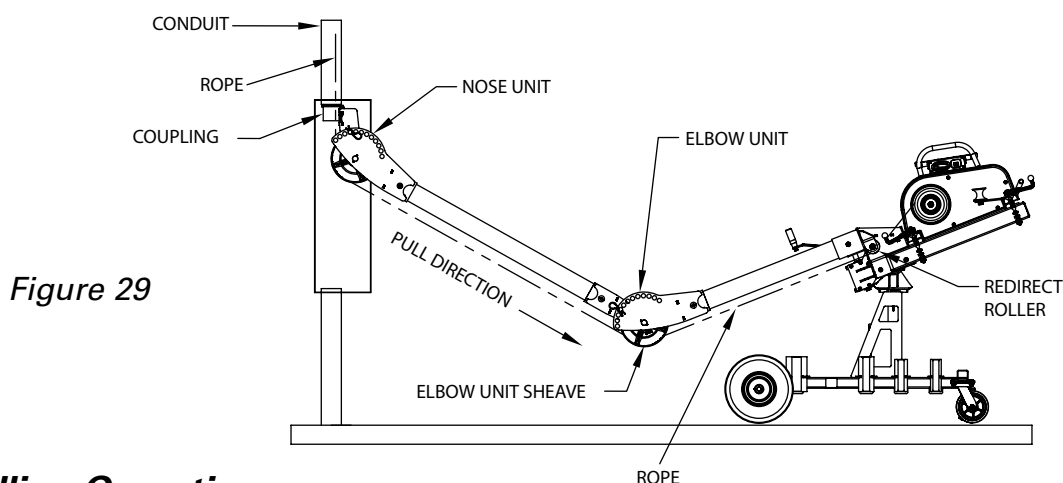

Figure 29
- The redirect roller located on the capstan side of the puller mount MUST be used during any pull that requires the rope path to be underneath the boom tube. See Figure 29 below.